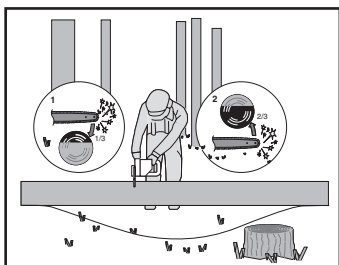

Figure 6
When the log is supported on both ends, as illustrated in Figure 6, cut $\frac{1}{3}$ the diameter from the top (overbuck) (1). Then make the finished cut by underbucking (2) the lower $\frac{2}{3}$ to meet the first cut.